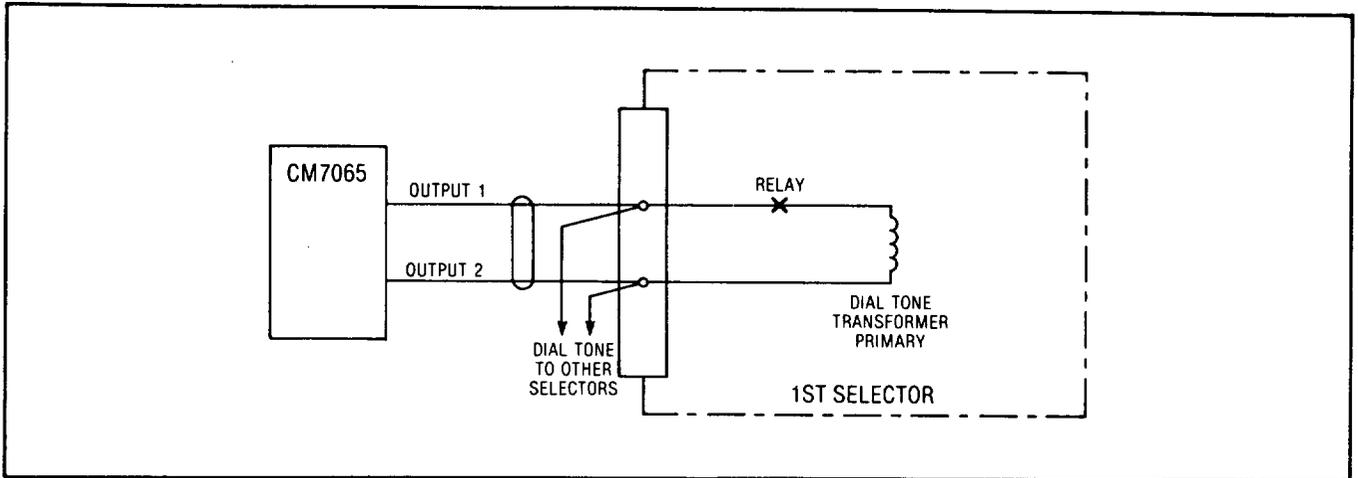
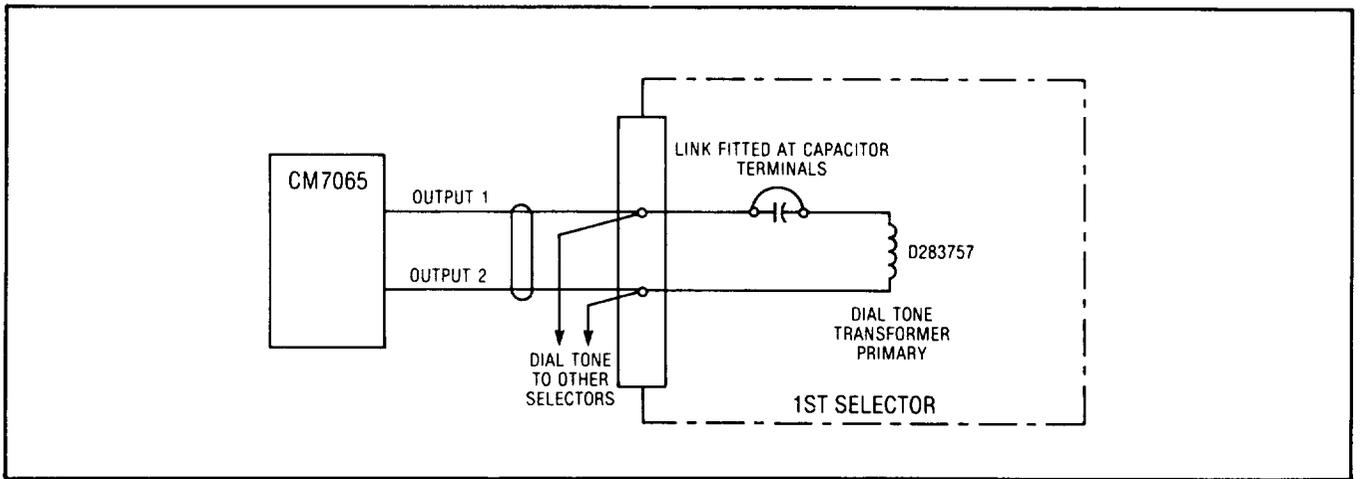
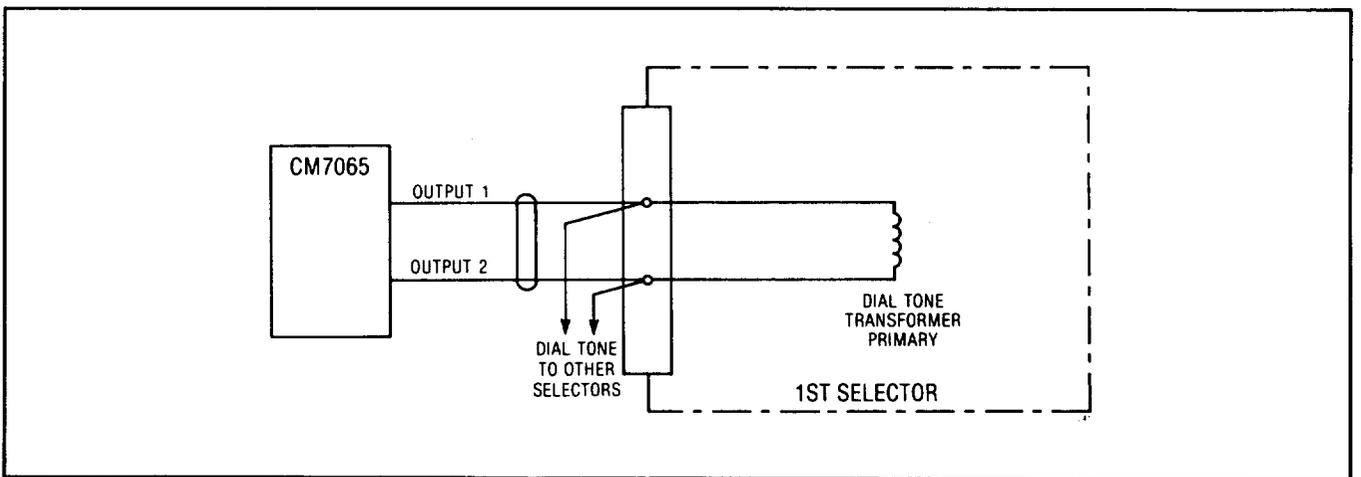

Fig. 7 1st Selector Connections: Western Electric
Fig. 8 1st Selector Connections: Automatic Electric
Fig. 9 1st Selector Connections: Stromberg Carlson
3.09 Output connections made depend on the type of CO equipment. Connections to Western Electric equipment are shown in Fig. 7; to Automatic Electric equipment in Fig. 8; and to Stromberg Carlson equipment in Fig. 9.